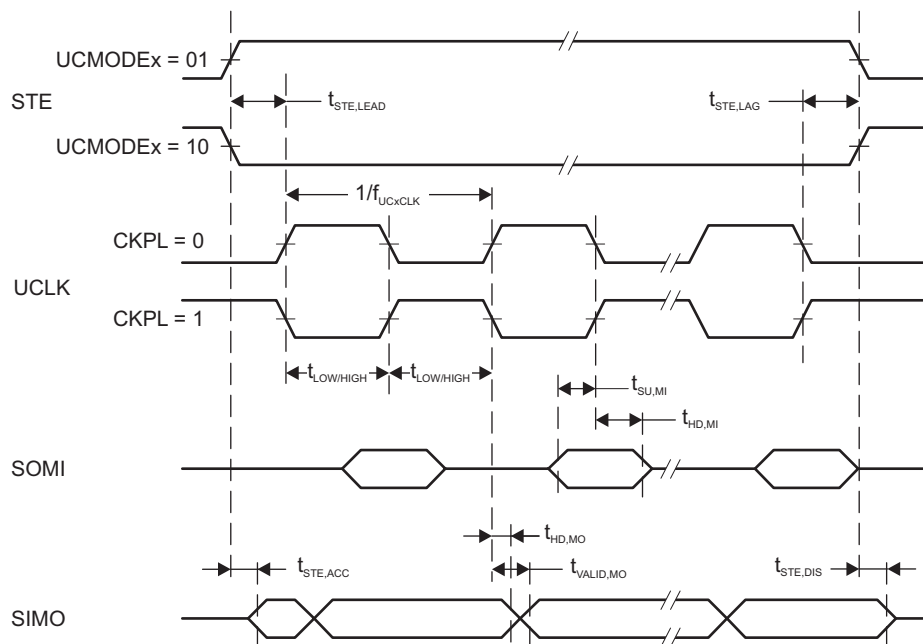
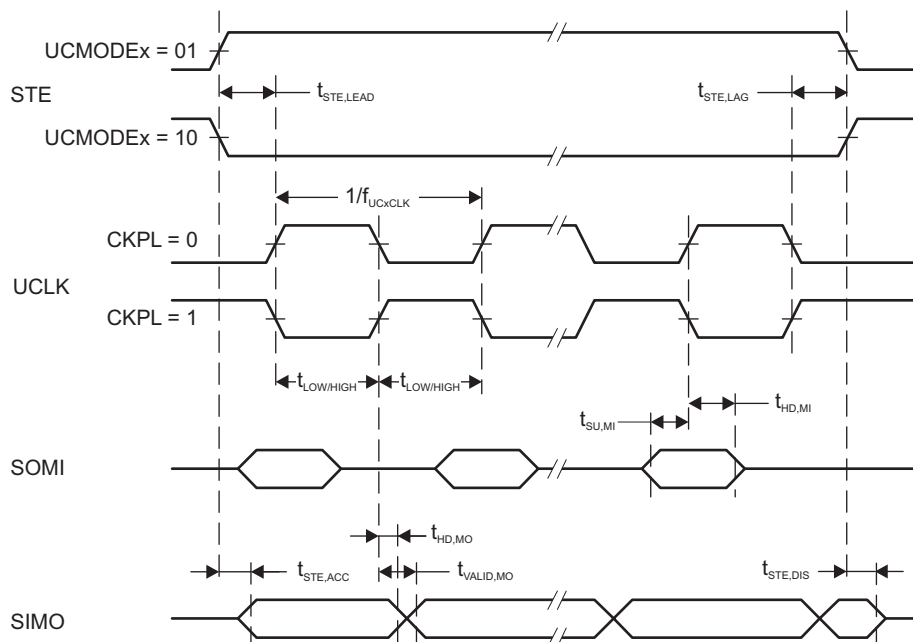

Figure 5-13. SPI Master Mode, CKPH = 0
Figure 5-14. SPI Master Mode, CKPH = 1
- (2) Specifies the time to drive the next valid data to the SIMO output after the output changing UCLK clock edge. See the timing diagrams in Figure 5-13 and Figure 5-14.
- (3) Specifies how long data on the SIMO output is valid after the output changing UCLK clock edge. Negative values indicate that the data on the SIMO output can become invalid before the output changing clock edge observed on UCLK. See the timing diagrams in Figure 5-13 and Figure 5-14.